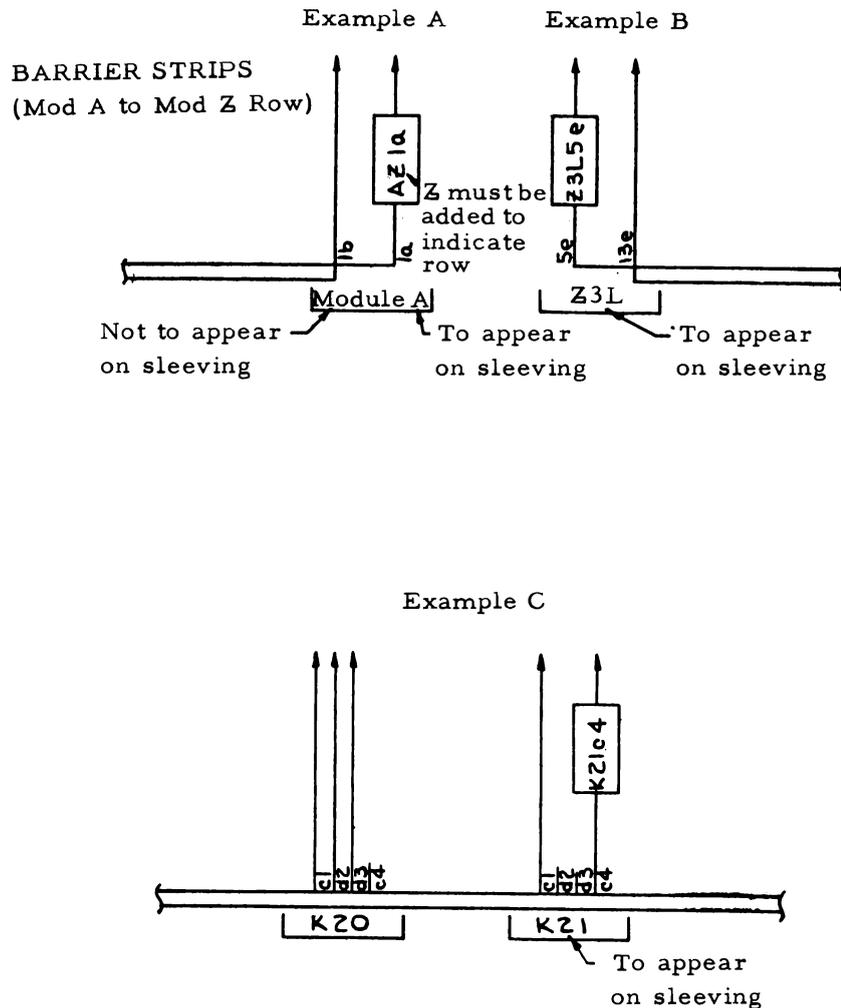

Figure 4-6. Wire Marker Identification
j. Markers and Identification: The identification (does not apply to jumpers) to be stamped on wire markers for all cable drawing numbers less than No. 3, 501,000 shall be the terminal identification found on the drawings adjacent to the cable trunk from which the terminal lead extends. (See Figure 4-6, examples A, B, and C.) The identification on cables and harnesses whose drawing numbers are 3, 501,000 or over shall be the proper circuit point.